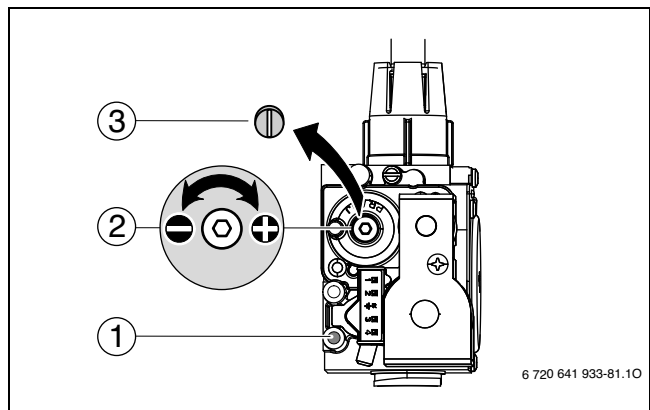
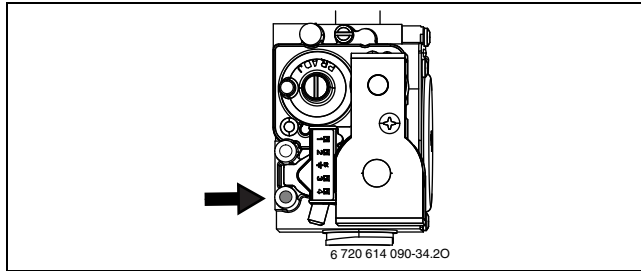

Fig. 82 Set CO₂ or O₂ level for minimum nominal output
Fig. 83 Dynamic gas pressure test port
- ▶ Loosen the screw in the test port for gas inlet pressure (. Fig. 82, [1]) and connect a pressure gauge (→ Fig. 83).